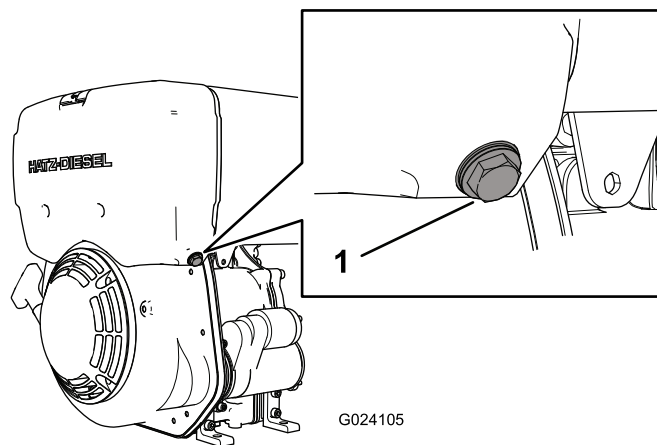

Figure 27
2. Loosen the water-trap bolt 3 to 4 rotations (Figure 27).